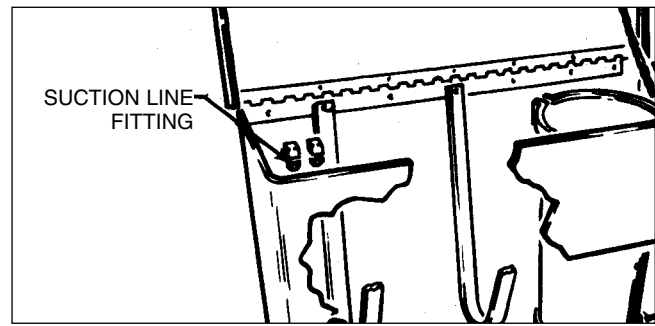

FIGURE 1-25, Suction Line
- Loosen Dirty Oil Suction Line Fitting on filter unit cabinet at location as shown (*see Figure 1-25*).